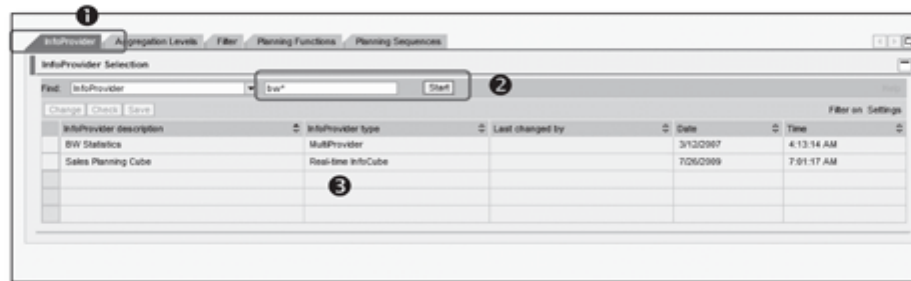

Figure 12.15 Search InfoProvider in Planning Modeler
1. You can create characteristic relationships in the INFOPROVIDER tab of the Planning Modeler (❶ of Figure 12.15).
2. You can locate the InfoProvider by using the search function, as shown in Figure 12.15 (❷). The list of all relevant InfoProviders is displayed based on the search criteria (❸).